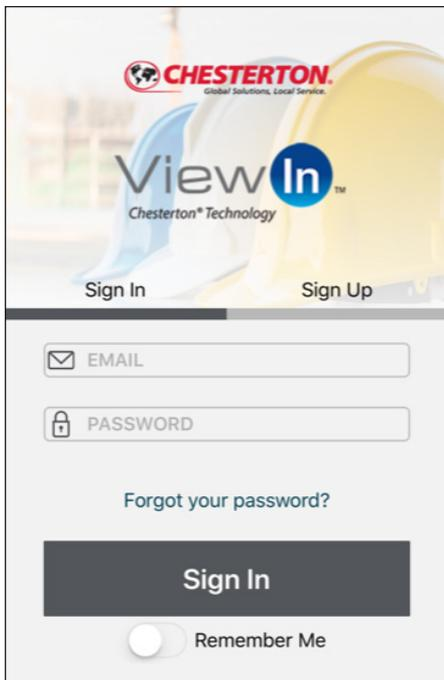

Figure 20
1. Log in to ViewIn App (Figure 20).